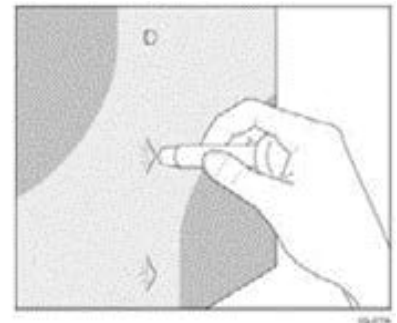

Figure 12. Using a Film-Cutting Tool on Rivets
1. Cut around rivets under any of the following circumstances (see Figure 12):